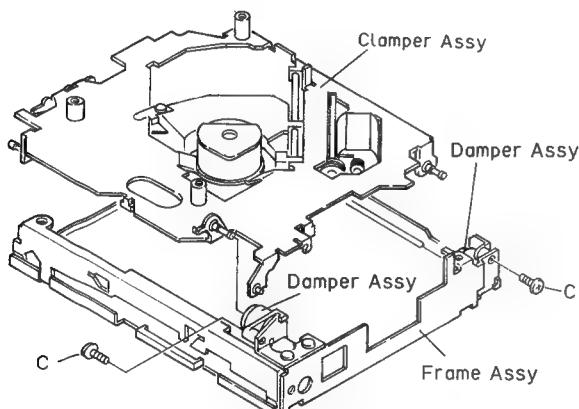

Fig.15
7. Remove the frame assy from the mechanical parts. (Fig.15)
8. Remove the two screws C, and then remove the damper assy.(Fig.15)
9. Remove the clamper assy as shown in Fig.15.